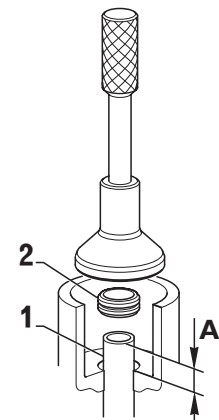

FIG. 4-2c
- Press into housing over the oil suction pipe the seal using the appropriate punch (Fig. 4-2c).